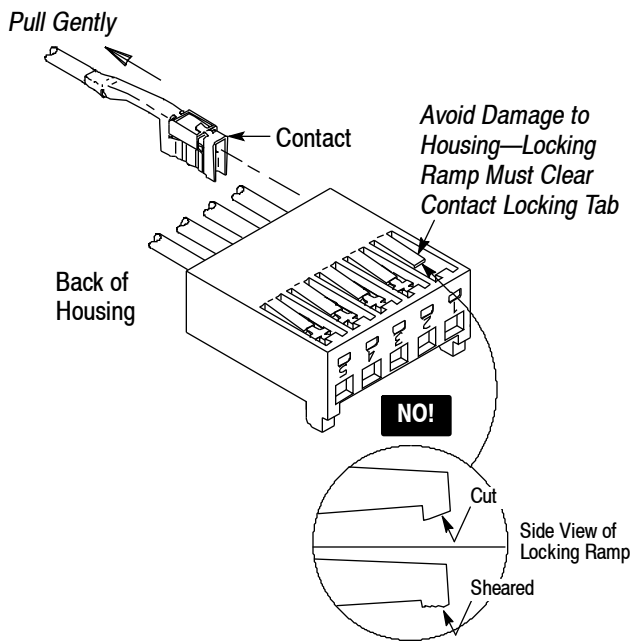

Figure 3
5. While holding the locking ramp in position, *gently* pull back on the wire until the contact is free. See Figure 3. If the contact does not pull out freely, push it back into the housing, and repeat the extraction procedure.